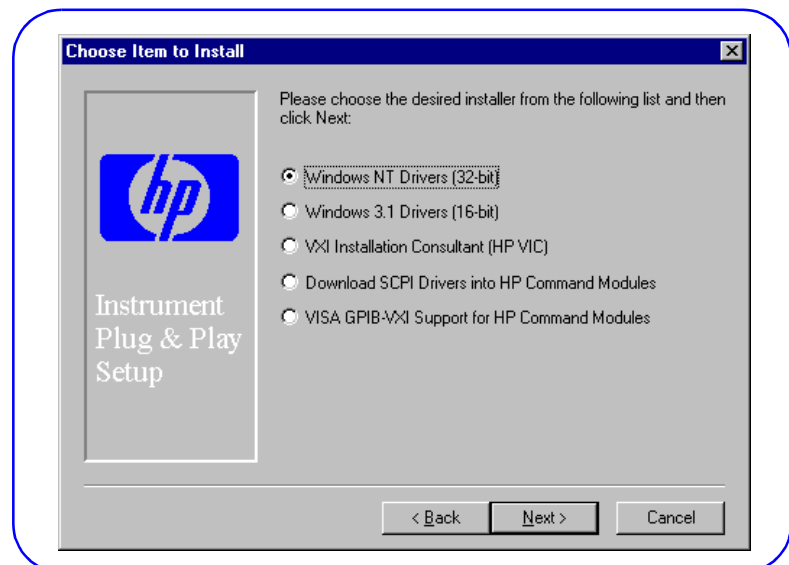

Figure 22. Choose Item to Install Screen
- 4 Select *INSTALL DRIVERS* and choose whether or not to view the *README.TXT* file. Click *No* to display the **Choose Item to Install** screen (see Figure 22).